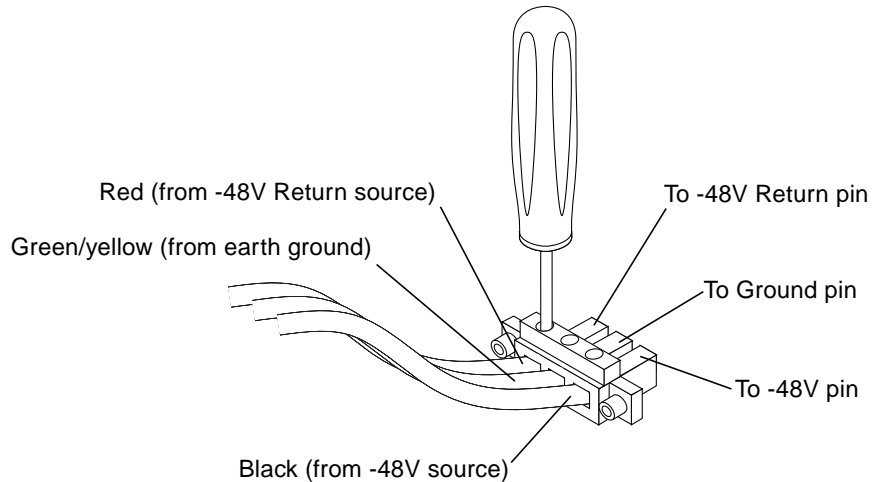

FIGURE 2-6 Tightening the Captive Screws at Bottom of DC Connector
6. Use a screwdriver to tighten the three captive screws at the bottom of the DC plug connector to secure each wire in place (FIGURE 2-6).